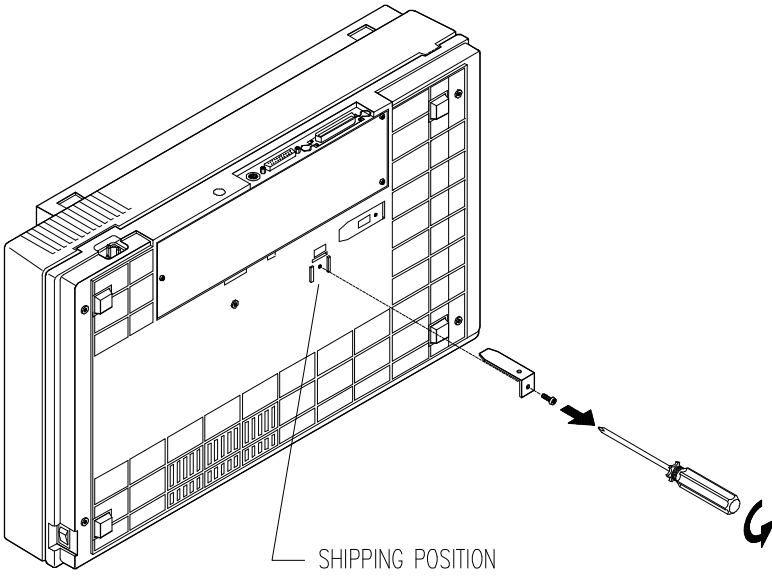

Figure 2-1 Remove the shipping retainer.
1. Stand the scanner on its side as shown in Figure 2-1. (See Figure 2-1)